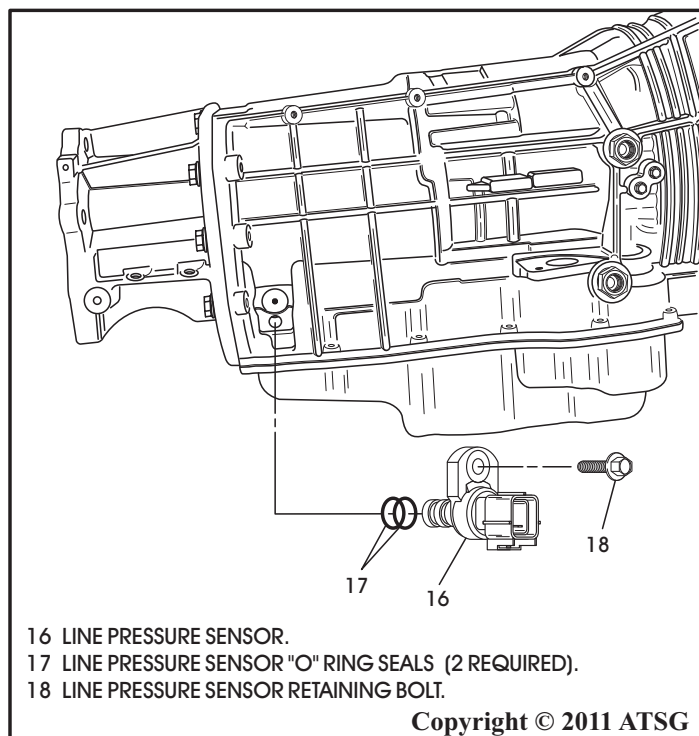

Figure 35
7. Remove the line pressure sensor from the case, as shown in Figure 35, remove and discard the "O" rings.